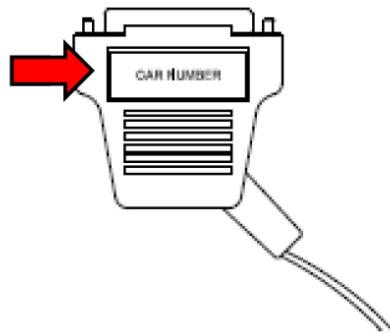

Figure 7-32: Detail View of ID Plug for the ACP
3. Reconnect the ID plug to the ACP. Figure 7-1 shows the installation detail of the ID plug for the ACP. First, check the car number label on the ID plug secured to the rack frame whether its car number is the same as the actual LRV car number (e.g. Label Example “Car0125”). The ID Plug acts as an identifier of the car number to the ACP. Please refer to Figure 7-32. Second, wrap the lanyard around the ACP handle. Third, reconnect the ID plug to ACP.